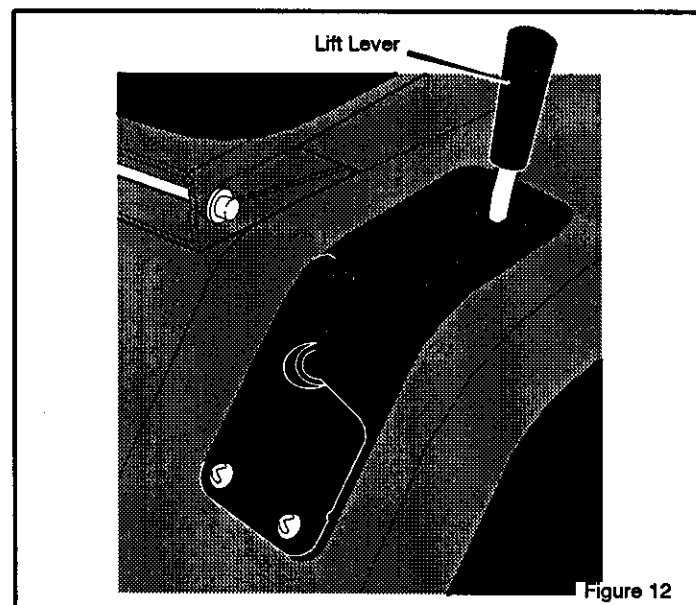

Figure 12
1. Move the **lift lever** forward to lower the mower housing and back to raise the mower housing (Figure 12).